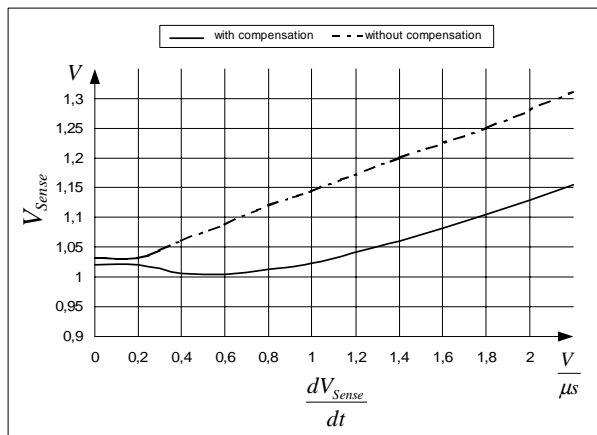

Figure 16 Overcurrent Shutdown
A propagation delay compensation is integrated to bound the overshoot dependent on  $dI/dt$  of the rising primary current. That means the propagation delay time between exceeding the internal current sense threshold  $V_{csth}$  and the switch off of CoolMOS™ is compensated over temperature within a range of at least (see Figure 16):
E.g.  $I_{peak} = 0.5A$  with  $R_{Sense} = 2$ . Without propagation delay compensation the current sense threshold is set to a static voltage level  $V_{csth} = 1V$ . A current ramp of  $dI/dt = 0.4A/\mu s$ , that means  $dV_{Sense}/dt = 0.8V/\mu s$ , and a propagation delay time of i.e.  $t_{Propagation Delay} = 180ns$  leads then to a  $I_{peak}$  overshoot of 12%. By means of propagation delay compensation the overshoot is only about 2% (see Figure 16). So current limiting is now capable in a very accurate way.